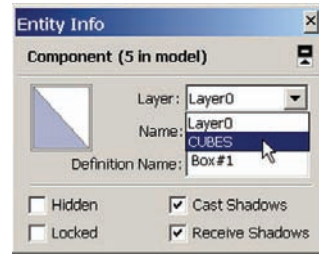

Fig. 3-20: The Entity Info menu lets you place geometry on specific layers.
3. The Entity Info menu box will appear. The Layers window indicates the layer on which the selected objects reside—currently Layer 0. Selecting the pull-down arrow to the right of layers will provide a list of all the layers in the model (Fig. 3-20). By selecting a layer from the list, all selected geometry will be placed onto that layer. With the Cube components still selected, select the Cubes layer.